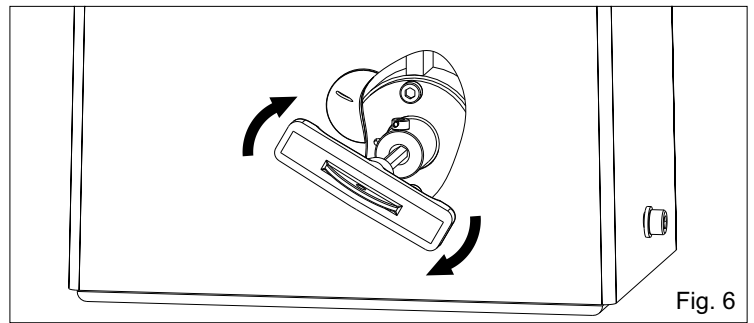

Fig. 6
- Insert the hexagonal T-shaped key without forcing and turn it clockwise until it stops (Fig. 6).